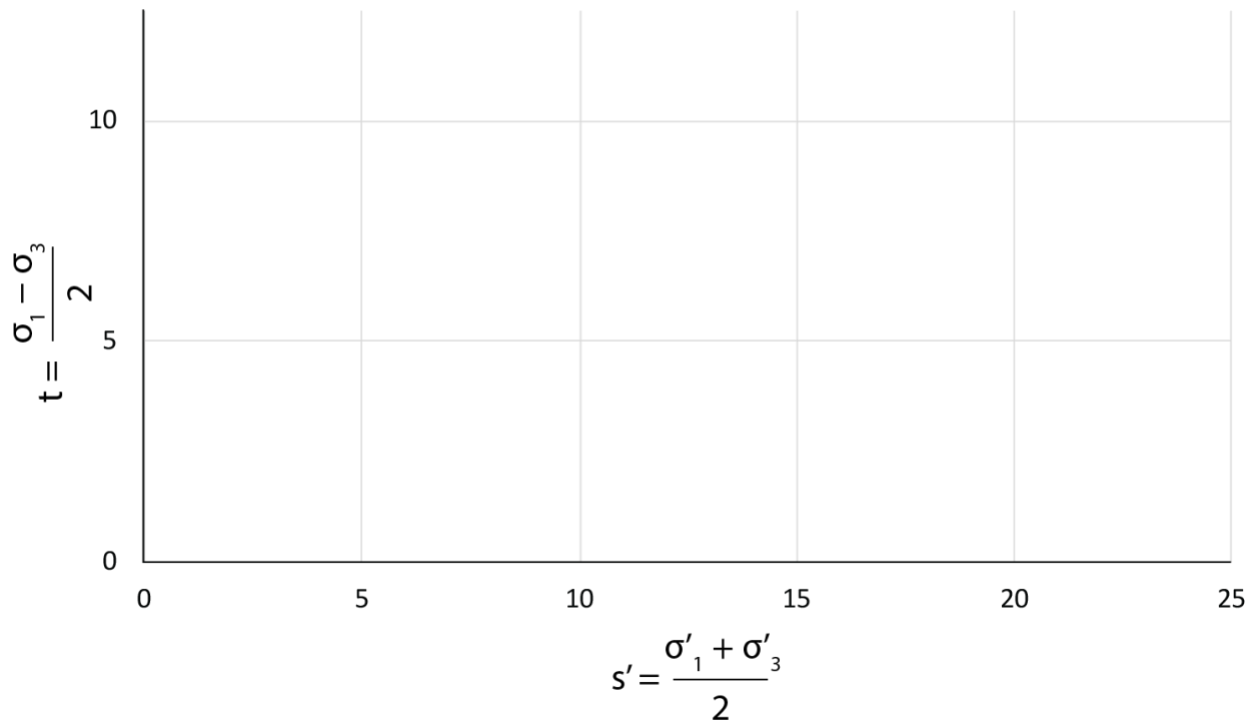

Figure 2: Mohr Diagram.
- 1) Plot this evolving stress state on a Mohr Diagram (Figure 2 top). Label the maximum shear stress. What is the angle of the plane to the maximum principal stress that carries the maximum shear stress?
- 2) Plot this evolving stress state on an average stress (s) vs. maximum shear stress plot (t) (Figure 2 bottom).
- a. Plot the Coulomb failure surface on Figure 2, top. Calculate the friction angle (ϕ). Calculate the angle of this failure surface relative to the orientation of σ_1 .
- b. On Figure 2, bottom. Draw a line from the origin to Pt. B. Calculate the slope of this line and determine the friction angle.